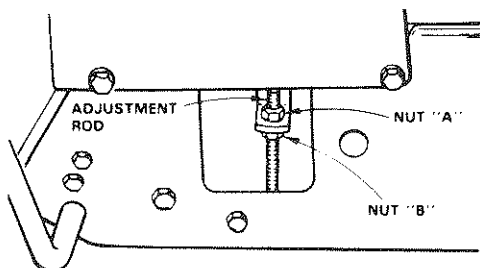

FIGURE 41
- If adjustment is required, snap out access cover on L.H. side of tractor above footrest (Fig. 41).